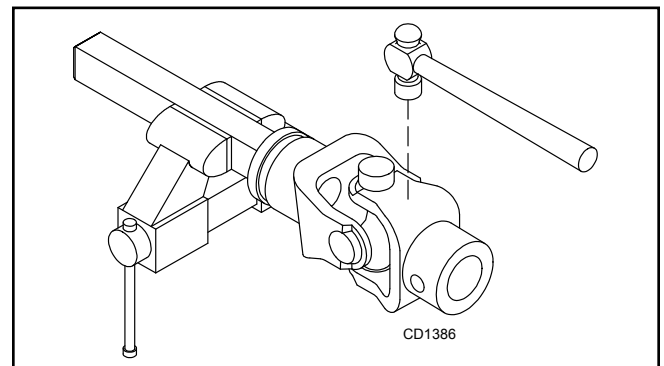

Figure 25. Remove Bearing Cups
2. With snap rings removed, support drive in vise, hold yoke in hand and tap on yoke to drive cup up out of yoke. See Figure 25.